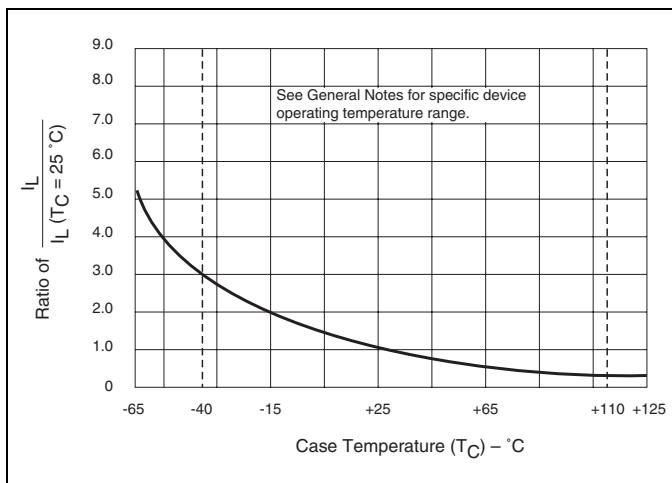

Figure E5.18 Normalized DC Latching Current versus Case Temperature
- (14) IGT = 500 μA maximum at TC = -40 °C for T106 devices
- (15) IH = 10 mA maximum at TC = -65 °C for 2N5064 Series and 2N6565 Series devices
- (16) IH = 6 mA maximum at TC = -40 °C for T106 devices
- (17) Pulse Width ≤ 10 μs
- (18) IGT = 350 μA maximum at TC = -65 °C for 2N5064 Series and 2N6565 Series devices
- (19) Latching current can be higher than 20 mA for higher IGT types. Also, latching current can be much higher at -40 °C. See Figure E5.18.
- (20) TC or TL = TJ for test conditions in off state
- (21) IDRM and IRRM = 50 μA for 2N5064 and 100 μA for 2N6565 at 125 °C
- (22) TO-92 devices specified at -65 °C instead of -40 °C
- (23) TC = 110 °C